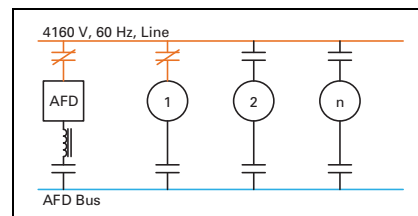

Figure 10.2-7. Motor #1 on Bypass
- AFD opens drive output contactor (**Figure 10.2-7**)